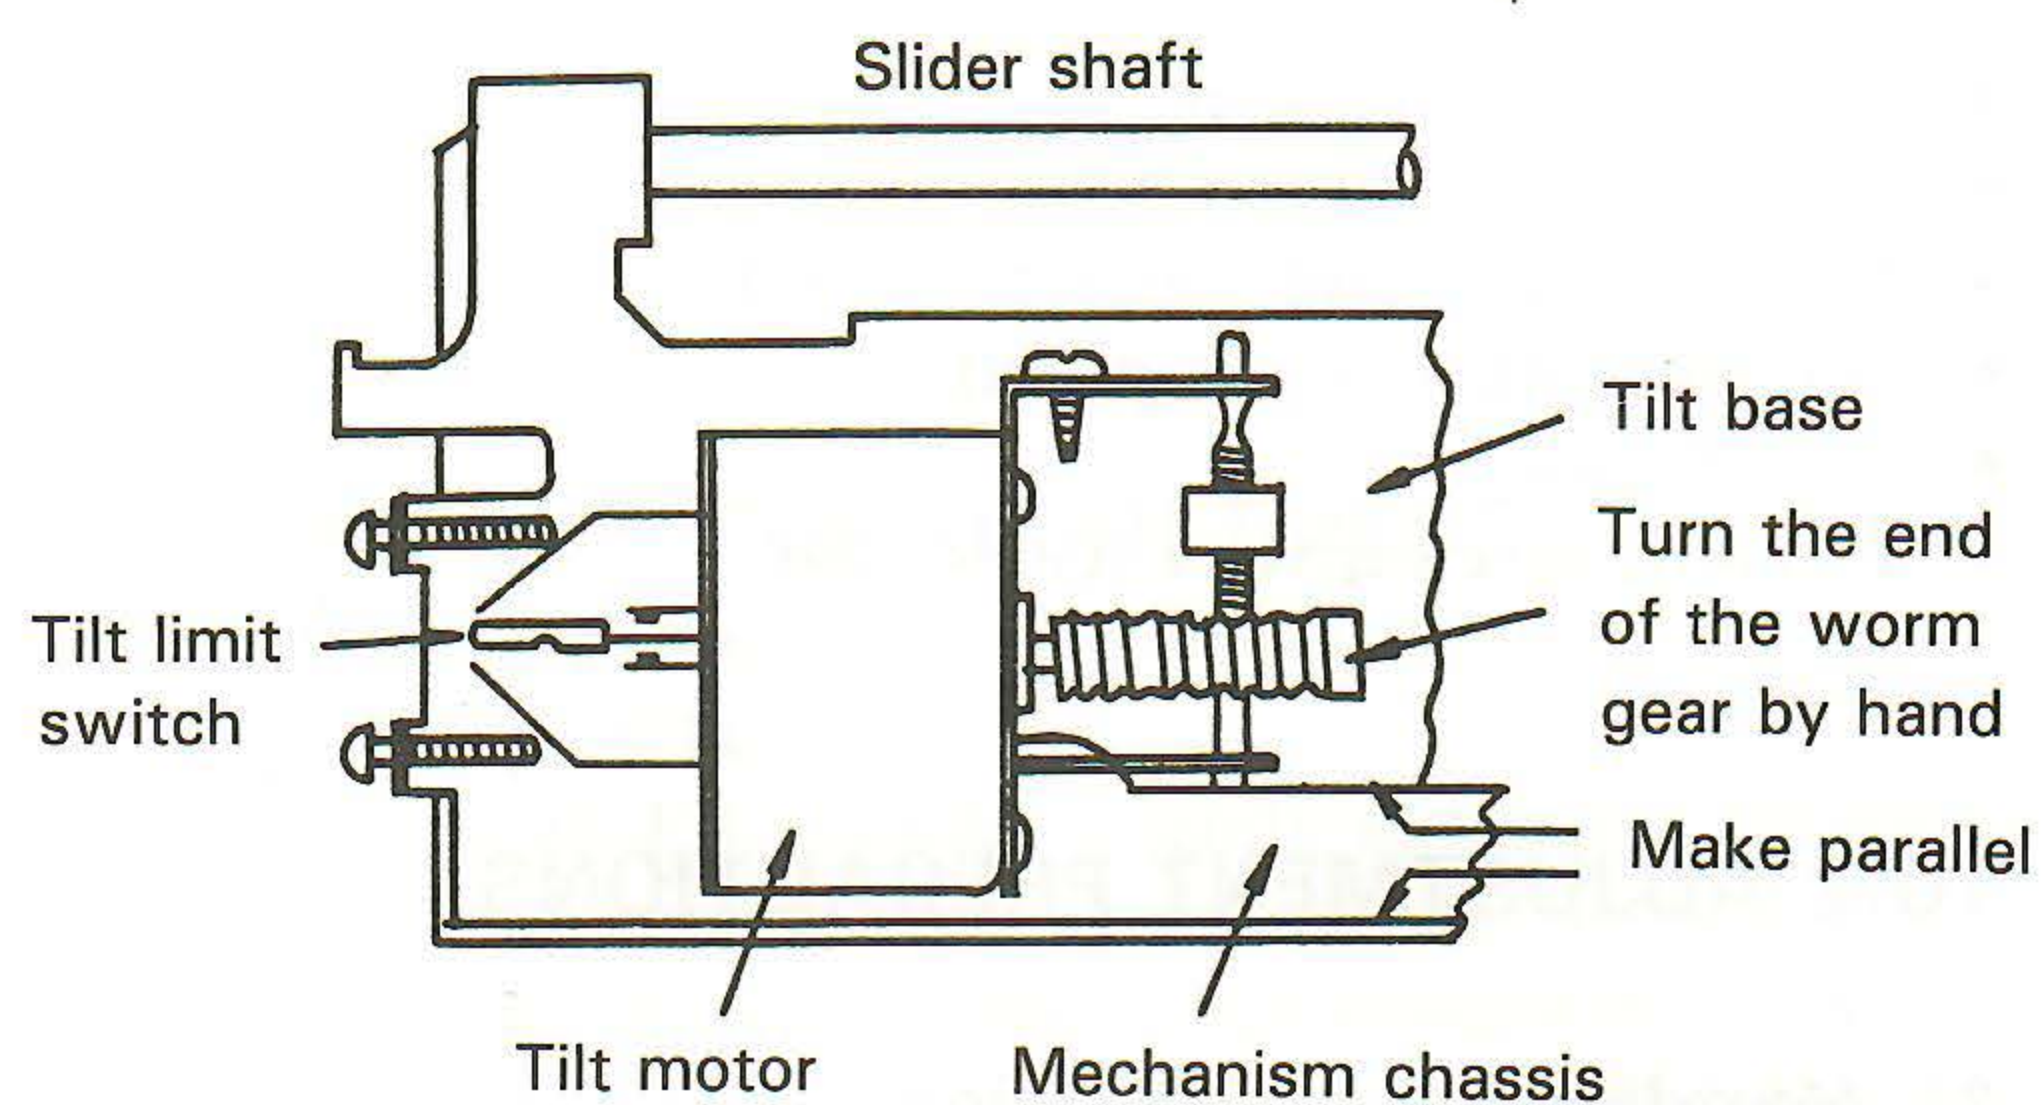

Fig. 10-4
5. Turn the end of the tilt motor worm gear by hand until the rib section of the mechanism chassis is parallel with the bottom of the tilt base. (Fig. 10-4)